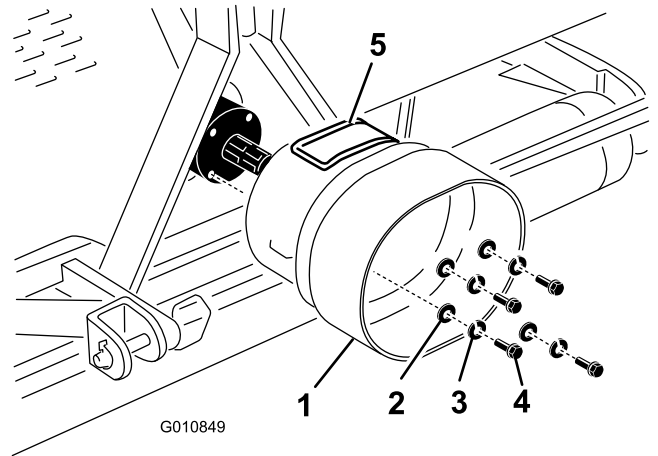

Figure 22
1. Remove the 4 bolts, lock washers, and flat washers secured to the rear of the aerator gearbox (Figure 22).
**Note:** You can open the access panel (Figure 22) to ease the removal and installation of the PTO shaft mounting fasteners.